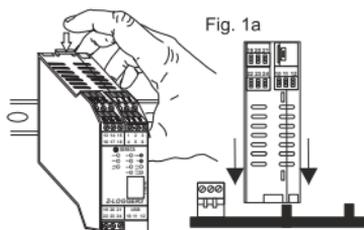

Fig. 1a
- 2) Insert the module rear IDC10 connector into a free slot of DIN rail accessory as you can see in fig. 1a. (the insertion is one way only because the connectors are polarized).
- 3) To secure the module to the IEC EN 60715 DIN rail, tighten the two hooks on the side of the IDC10 rear connector as shown in fig. 1a.